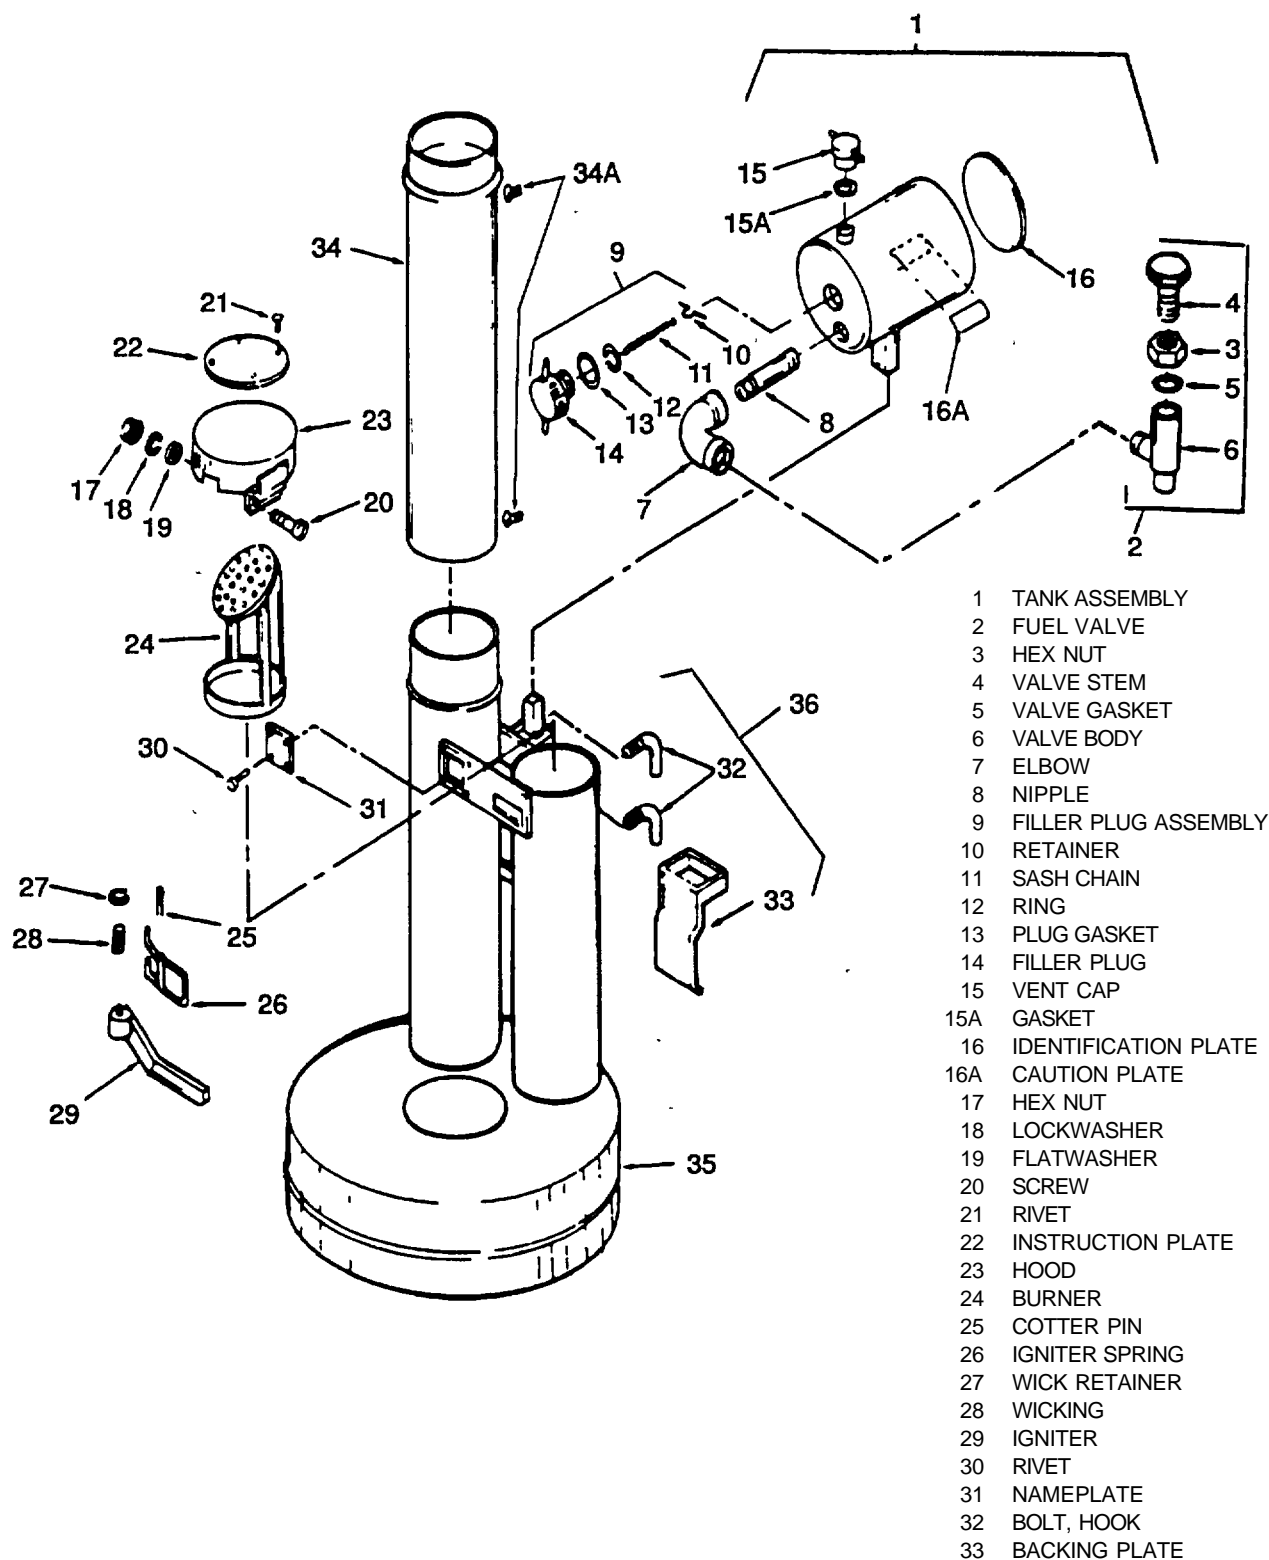

Figure 4-3. Immersion Heater Components Removal and Installation
- (1) Refer to Figure 4-3. Remove two nuts (17), lockwashers (18), flat washers (19), and screws (20). Remove hood (23) from the burner compartment.
- (2) If necessary, remove four rivets (21) and instruction plate (22) from hood.
- (3) Remove cotter pin (25) and igniter spring (26). Remove igniter (29).
- (4) Remove retainer spring (27) and wicking (28) from igniter.
- (5) If necessary, remove four rivets (30) and name plate (31) from heater body.
- (6) If necessary, remove hook bolts (32) and mounting clamp (33).
- (1) Refer to Figure 4-3. If necessary, install mounting damp (33) and locking screws (32).
- (2) If necessary, install nameplate (31) on heater with four rivets (30).
- (3) Install new wicking (28) in igniter (29). Install retainer spring (27).
- (4) Install igniter (29), igniter spring (26), and cotter pin (25).
- (5) If necessary install instruction plate (22) on hood with four rivets (21).
- (6) Install hood (23) on heater body with two screws (20), flatwashers (19), lockwashers (18), and nuts (17).
Refer to Figure 4-3. Remove fuel tank (1) by lifting it up and over the square mounting stud.
- (1) Refer to Figure 4-3. Unscrew fuel valve (2), elbow (7), and nipple (8) from fuel tank (1).
- (2) Unscrew elbow (7) from nipple (8).
- (3) Unscrew hex nut (3) from valve body (6) and remove gasket (5) and valve stem (4).
- (4) Unscrew and remove filler plug (14).
- (5) Remove retainer (10), sash chain (11), ring (12), and gasket (13) from the body (9).
- (6) Unscrew vent cap (15) approximately three turns, being careful not to remove the vent cap from the tank
- (7) Remove gasket (15A) by stretching it over the vent cap.
- (8) If necessary, remove identification plate (16) and caution plate (1 6A).
- (1) Refer to Figure 4-3. If necessary, install identification plate (16) and caution plate (1 6A).
- (2) Install gasket (1 5A) by stretching it over vent cap (15).
- (3) Tighten vent cap (15).
- (4) Install gasket (13), ring (12), sash chain (11), and retainer (10) on heater body.
- (5) Install filler plug (14).
- (6) Install valve stem (4) and gasket (5) on valve body (6). Install hex nut (3) on valve body (6) and tighten.
- (7) Install nipple (8) in fuel tank
- (8) Install elbow (7) on nipple (8).
- (9) Install fuel valve assembly (2) in elbow (7).